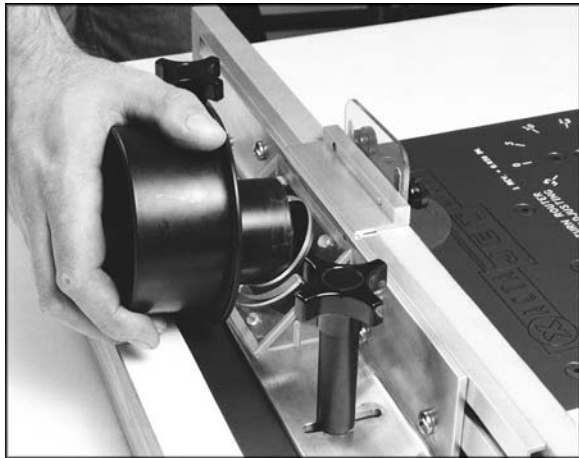

Figure 14
- The vacuum attachment is sized to accept standard 2-1/4" vacuum hose or a dust collector adaptor JET Part #JW1000 (see your local JET dealer for adaptors). To install hose on the vacuum attachment, press nozzle down slightly on the flexible arms and pivot inward (Fig. 14).